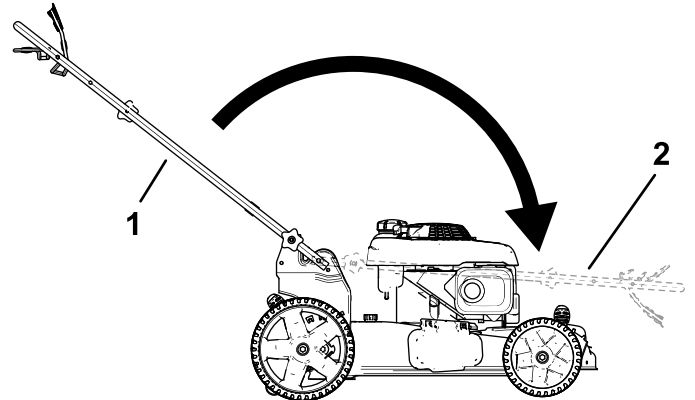

Figure 19
2. Fold the handle by rotating it forward (**Figure 19**).